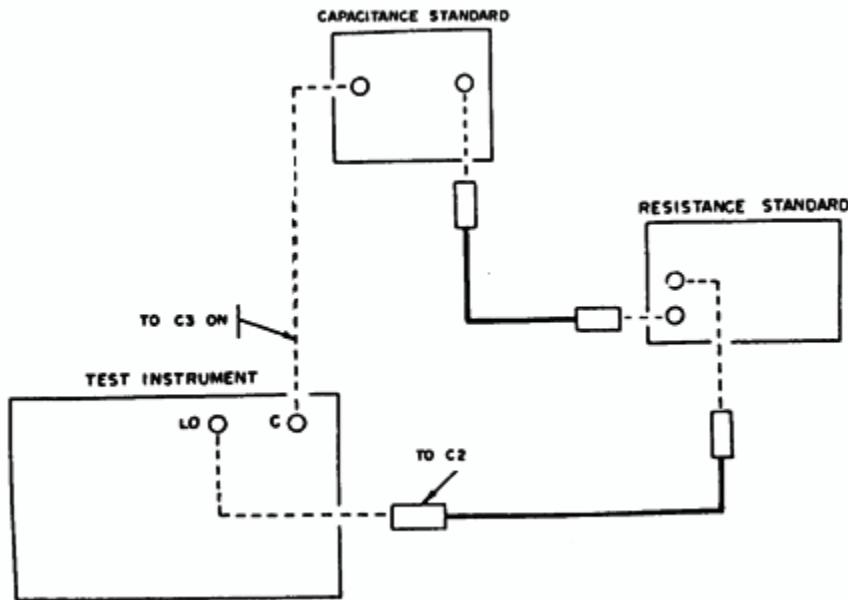

Figure 4. Dissipation - equipment setup.
- (1) Connect equipment as shown in figure 4.
- (2) Adjust resistance standard to 31.85 Ω.
(3) Adjust TI LRC dial, **D-Q SERIES** dial, and **DET GAIN** control for best null indication on meter. **D-Q SERIES** - dial will indicate between 1.88 and 2.12.
(4) Repeat technique of (2) and (3) above, using resistance standard settings listed in table 7. **D-Q SERIES** dial will indicate within limits specified.